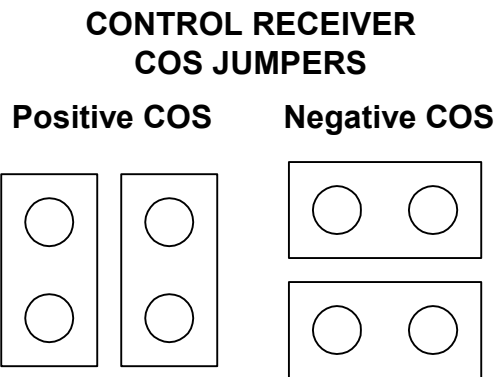

FIGURE 3
5. If the COS goes positive when the receiver is activated make sure the jumpers in JP3 and JP4 have their skinny parts both faced towards potentiometers R29 and R37 (see figure 3). This is the position for a positive going COS polarity. The jumpers are in the positive COS position when they are shipped from the factory. For a negative polarity COS the jumpers go across from JP3 to JP4. (NOTE: The jumpers in positions JP3 and JP4 can always be turned 90 degrees for the opposite COS polarity.)